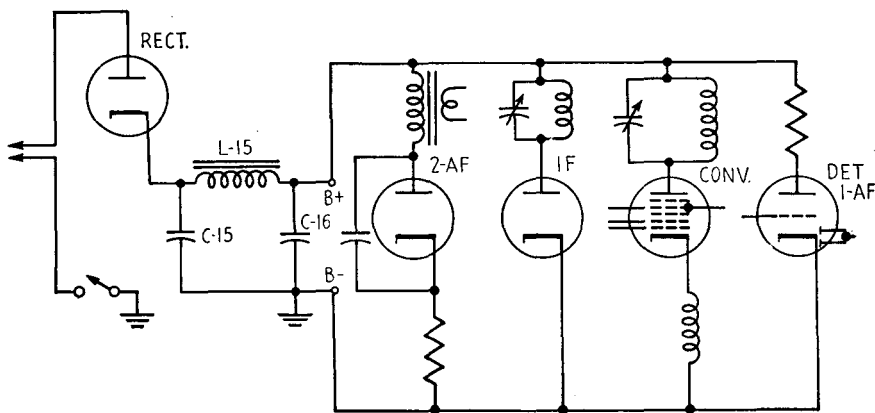

FIG. 18-24.—Skeleton *B* circuit of a typical AC/DC receiver.
mer shorting to its shielding—Fig. 18-24 shows a complete *B* circuit of a typical receiver, for analysis of the likely locations of the short.
12. In the *B* circuit breakdown of Fig. 18-24, assume that an ohmmeter check from common negative to *B* plus gives a reading of 40 ohms. List some of the likely locations of the short. Outline a procedure that could be used in tracking down the short.